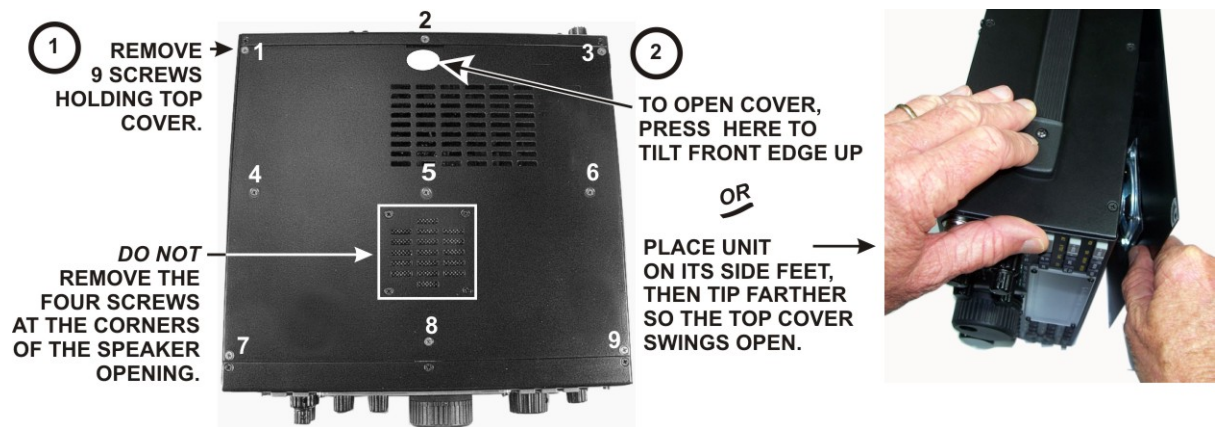

Figure 1. Removing K3 Top Cover.
- Remove the nine screws to free the top cover as shown in Figure 1. After the cover is open, lift it gently to reach the speaker wire connector. Unplug the speaker and set the top cover aside in a safe place.